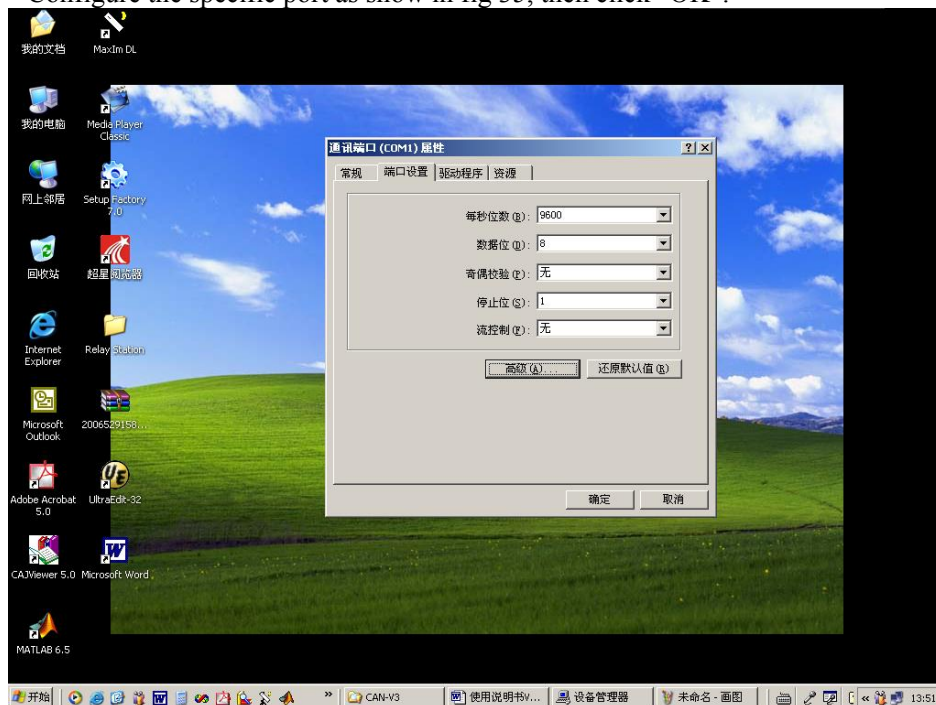

fig 35 Port attribute
- (1) Right click “My computer” → “Attribute”, then popup “System attribute” dialog;
- (2) Click the “hardware” sheet, then click device manager, then popup the interface of device manager;
- (3) Double click the “USB Serial Port (COM*)” in the “Ports(COM 和 LPT)” node, then popup “USB Serial Port (COM*) attribute” dialog;
- (4) Click the button “Advanced” in sheet “Port Setup”, then popup “COM*’s advanced setup” dialog;
- (5) Select “COM port number” to one of not in using COM1 to COM4, eg. COM1, then click “OK”, return the “USB Serial Port (COM1) attribute” dialog;
- (6) Configure the specific port as show in fig 35, then click “OK”.